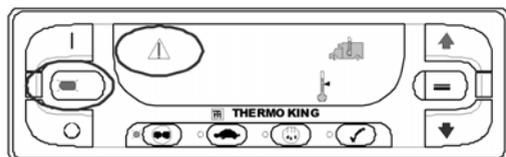

Figure 25: Display, Preferred Method for Manually Switching from Electric Mode to Diesel Mode
3. Press the Standard Truck HMI Control Panel ON Key to turn the unit on. The Hourmeters display will briefly appear and then the screen will appear as shown in Figure 25.
**IMPORTANT:** When the display shown in Figure 25 is present, do not press the Standard Truck HMI Control Panel OFF Key to turn the unit off. Press the Standard Truck HMI Control Panel ON Key again to clear Alarm Code 91 Check Electric Ready Input and turn the unit back on in Diesel Mode.
If the Standard Truck HMI Control Panel OFF Key is pressed when the display shown in Figure 25 is present, the unit will turn off and the display will be blank.